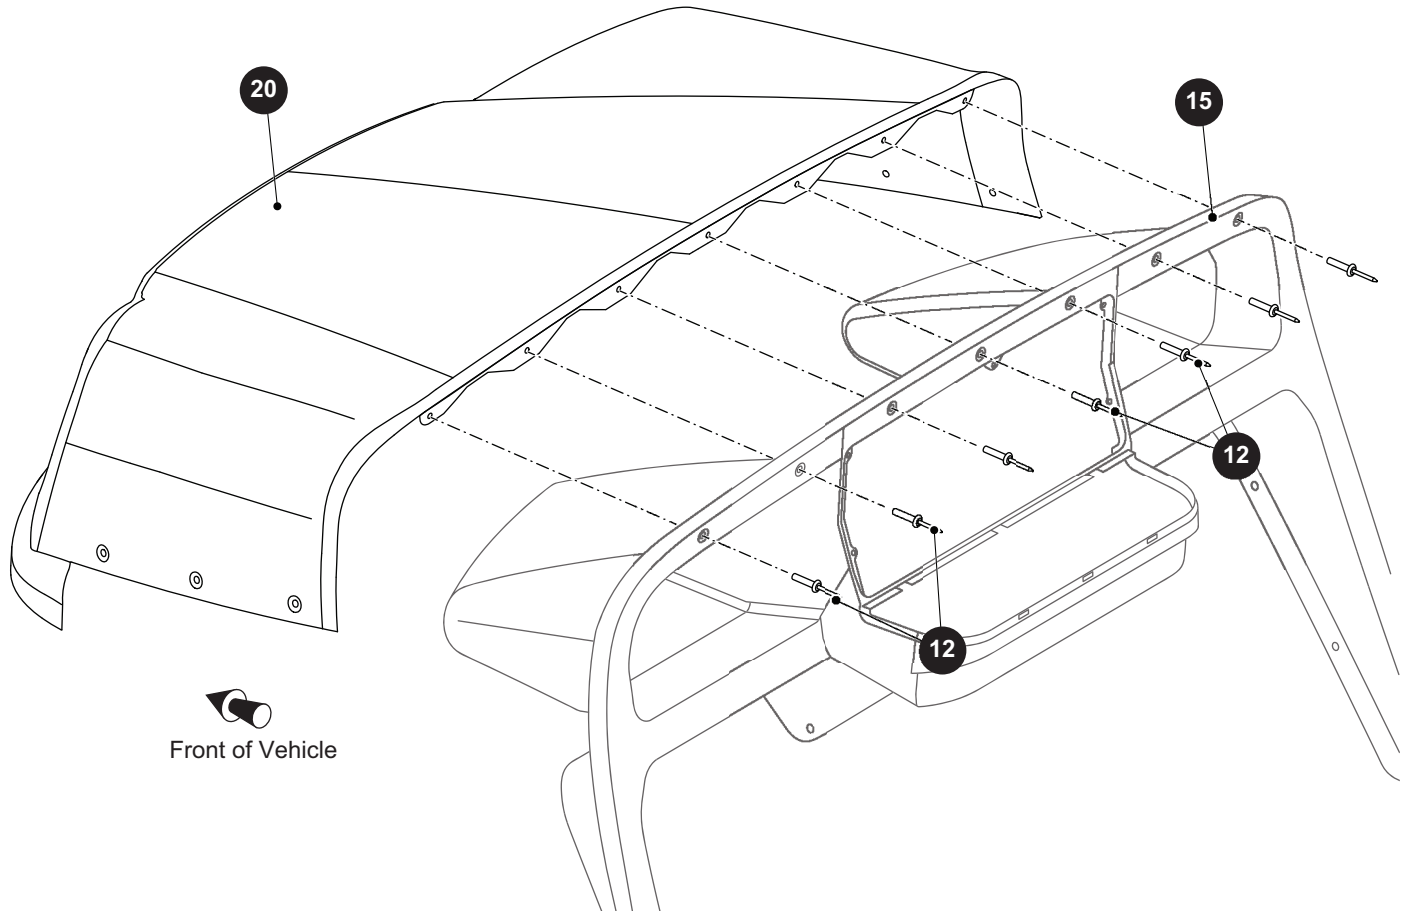

Fig. 6 Cowl
3. Drill out the rivets (12) securing the top of the instrument panel (15) to the cowl (20) (Ref Fig. 6).